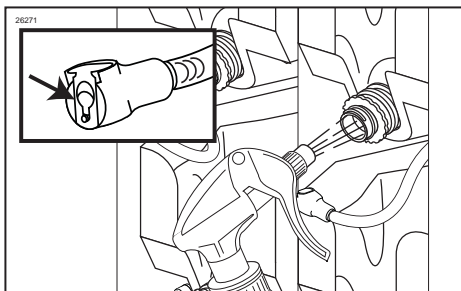

Figure 69
17. Using a spray bottle of approved sanitizer solution, spray the syrup bag fitment and the Syrup Bag Connector. Allow these parts to sanitize for at least 1 minute. (See Figure 69.)